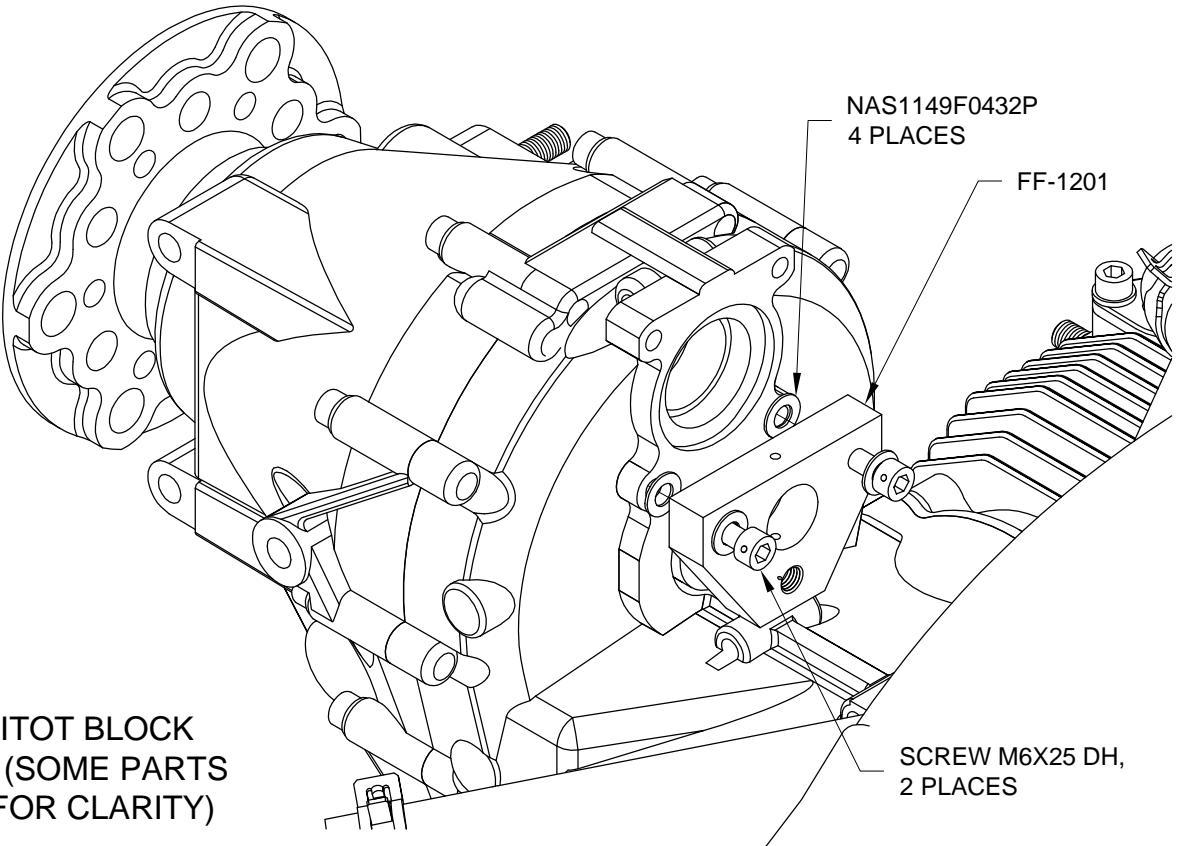
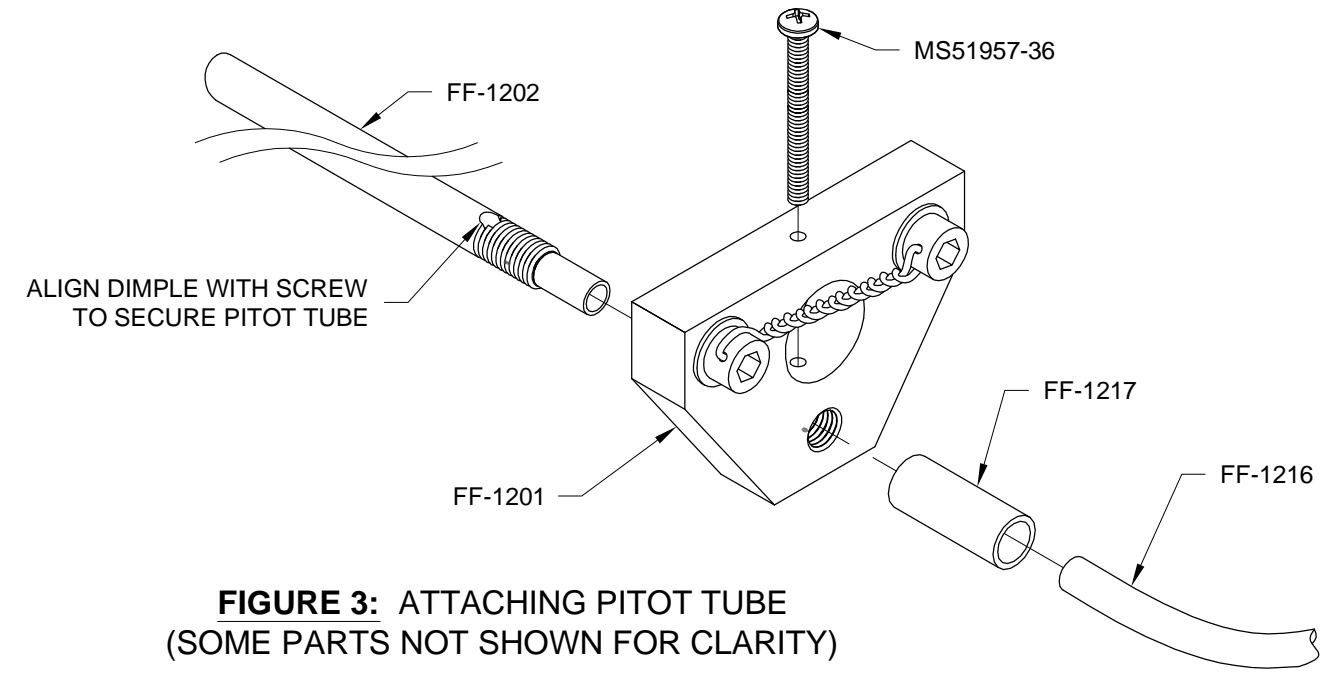
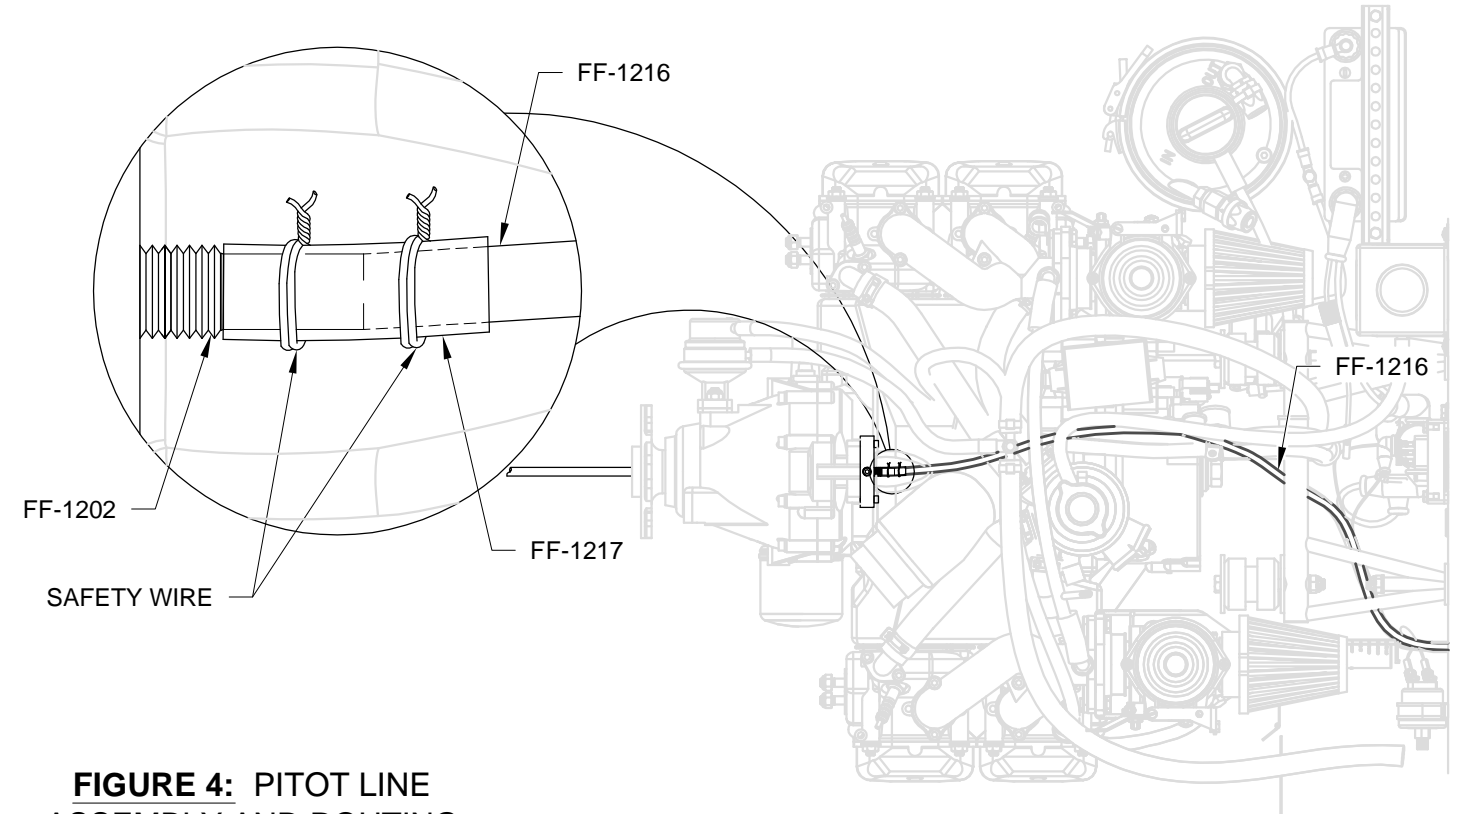

FIGURE 2: PITOT BLOCK INSTALLATION (SOME PARTS NOT SHOWN FOR CLARITY)
FIGURE 3: ATTACHING PITOT TUBE (SOME PARTS NOT SHOWN FOR CLARITY)
FIGURE 4: PITOT LINE ASSEMBLY AND ROUTING
Step 5: Mount the FF-1201 Pitot Block with the hardware called out in Figure 2. The pitot block should be mounted with the threaded half of the pitot block aft. Turn the cap screws until they touch the surface of the washer, turn an additional 1/4 turn and stop. Safety wire the cap screws together as shown in Figure 3.
Step 6: Insert the locking screw shown in Figure 3 to "tap" the #36 hole in the FF-1201 Pitot Block. Remove the screw and insert the FF-1202 Pitot Tube through the prop shaft and into the pitot block. Turn the pitot tube until the marks made on the pitot tube and pitot block align. Insert the locking screw as shown in Figure 3 and tighten by hand until it just bottoms on the pitot tube. Check that the front of the tube is properly oriented. The head of the locking screw will not be in contact with the pitot block.
Step 7: Route the FF-1216 Pitot Line as shown in Figure 4. Cut a one inch piece of .062X3/8 104-0375062 TUBE to make the FF-1217 Pitot Interconnect and slip it over the end of the pitot line and the aft end of the FF-1202 Pitot Tube as shown in Figures 3 and 4. The pitot line and pitot tube should butt against each other.
Step 8: Double wrap safety wire around the FF-1217 Pitot Interconnect as shown in Figure 4.